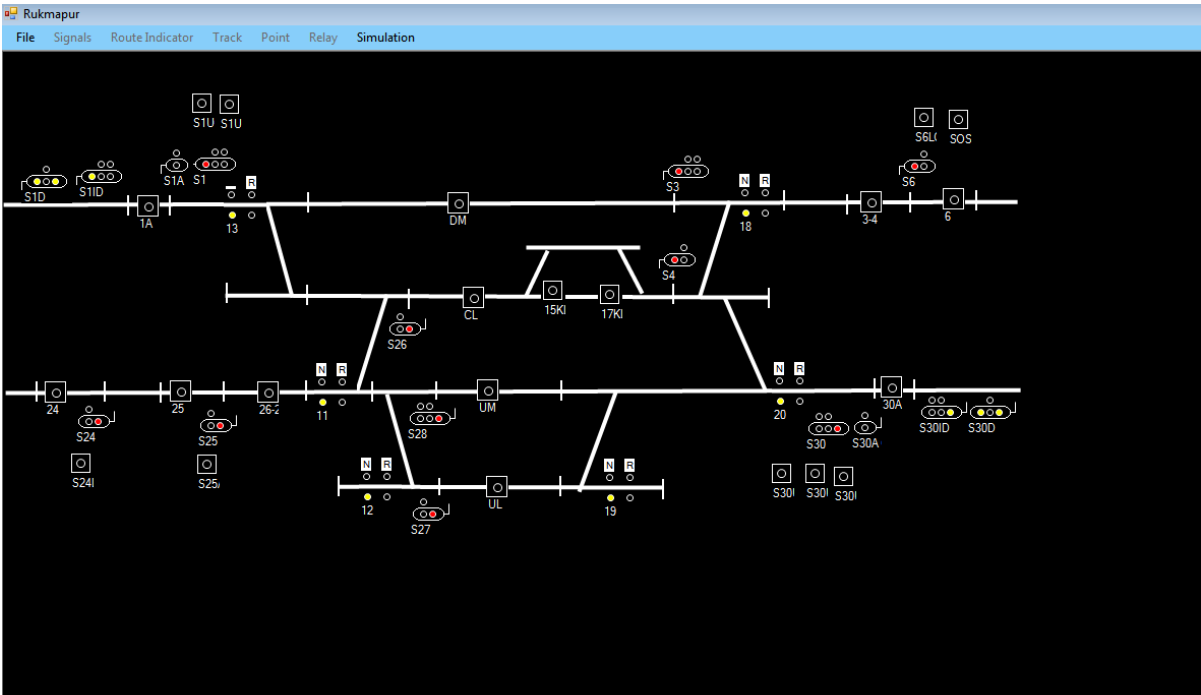
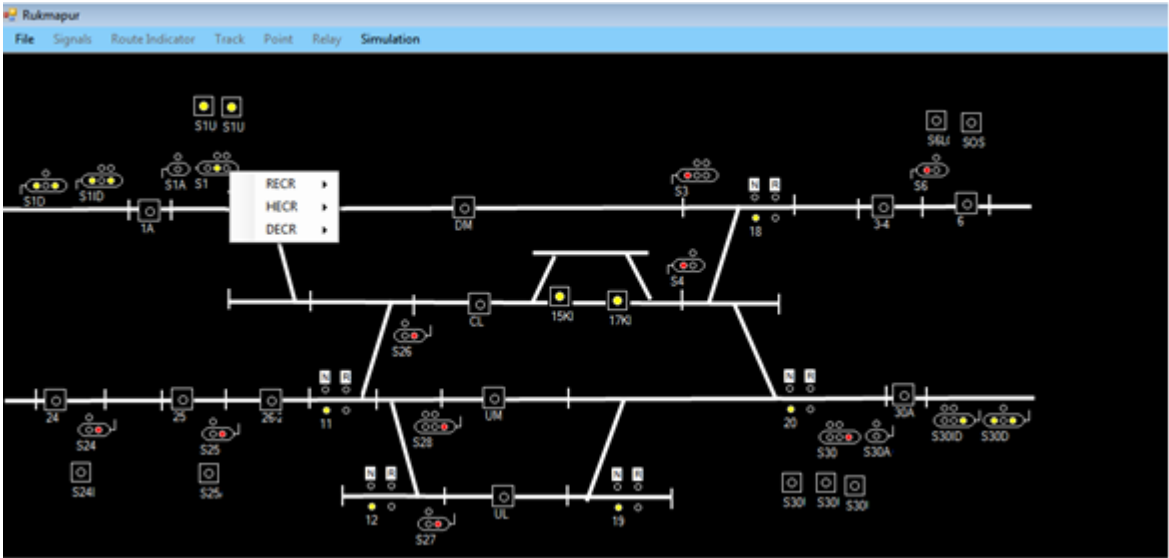

Figure 4 Typical Field Simulator Panel
Figure 5 Field Simulator Panel
- (ii) The Figure 4 and Figure 5 shows, position of signal posts, points and track circuits in the station yard. FSP application can be operated by using mouse. When the user right clicks on functions like Signals, Points, Track Circuits corresponding menu with functional options will appear.